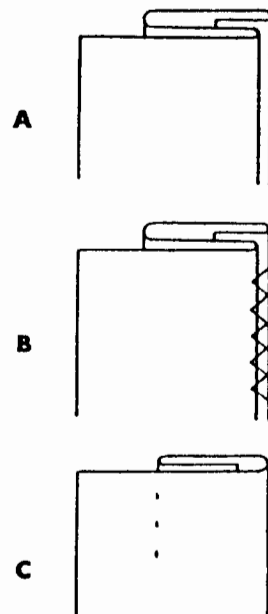

Fig. 42
4. Fold the material into the size of the hem desired and fold back as in Fig. 42 A with a  $\frac{1}{4}$ " overlap on the bottom fold of the edge.
5. Proceed to sew down the fold as in Fig. 42 B.
6. After stitching is finished, unfold the material as shown in Fig. 42 C and you will have a blind stitch hem.